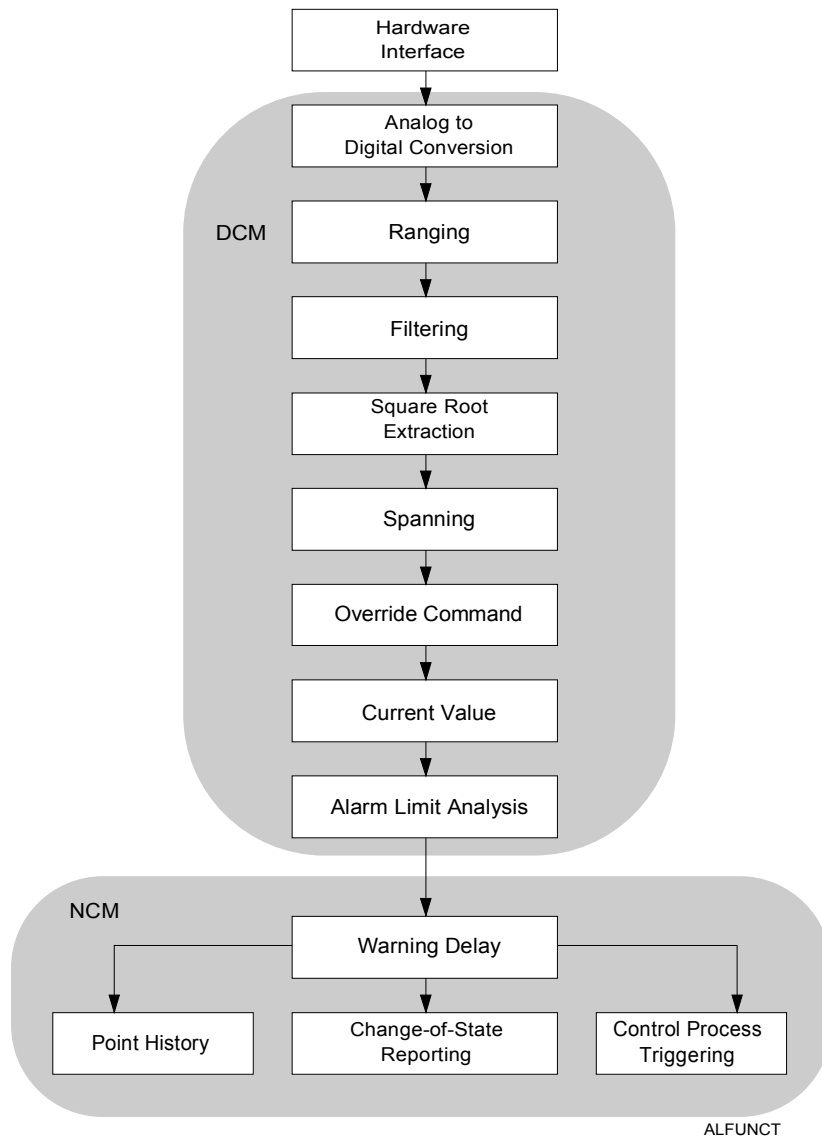

Figure 7: AI Functional Flow
Figure 7 shows a general model of how the AI object operates. For more information, see the *Metasys Network Technical Manual, Software Data Sheets, Analog Input (AI) Technical Bulletin*.